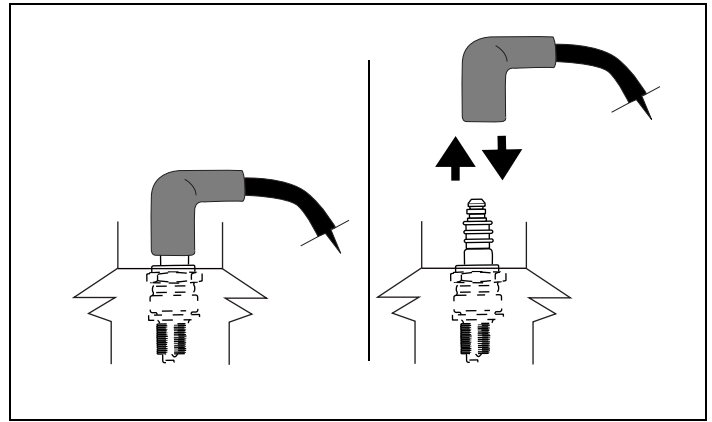

Figure 49. Disconnecting/Connecting Spark Plug
1. Carefully disconnect spark plug wire and keep it away from spark plug. See Figures 49 and 50. See "G. Avoid Accidental Starts" instructions on page 2. Afterward, continue reading instructions below.
9. Carefully disconnect spark plug wire from grounding post, if provided. See Figure 49.